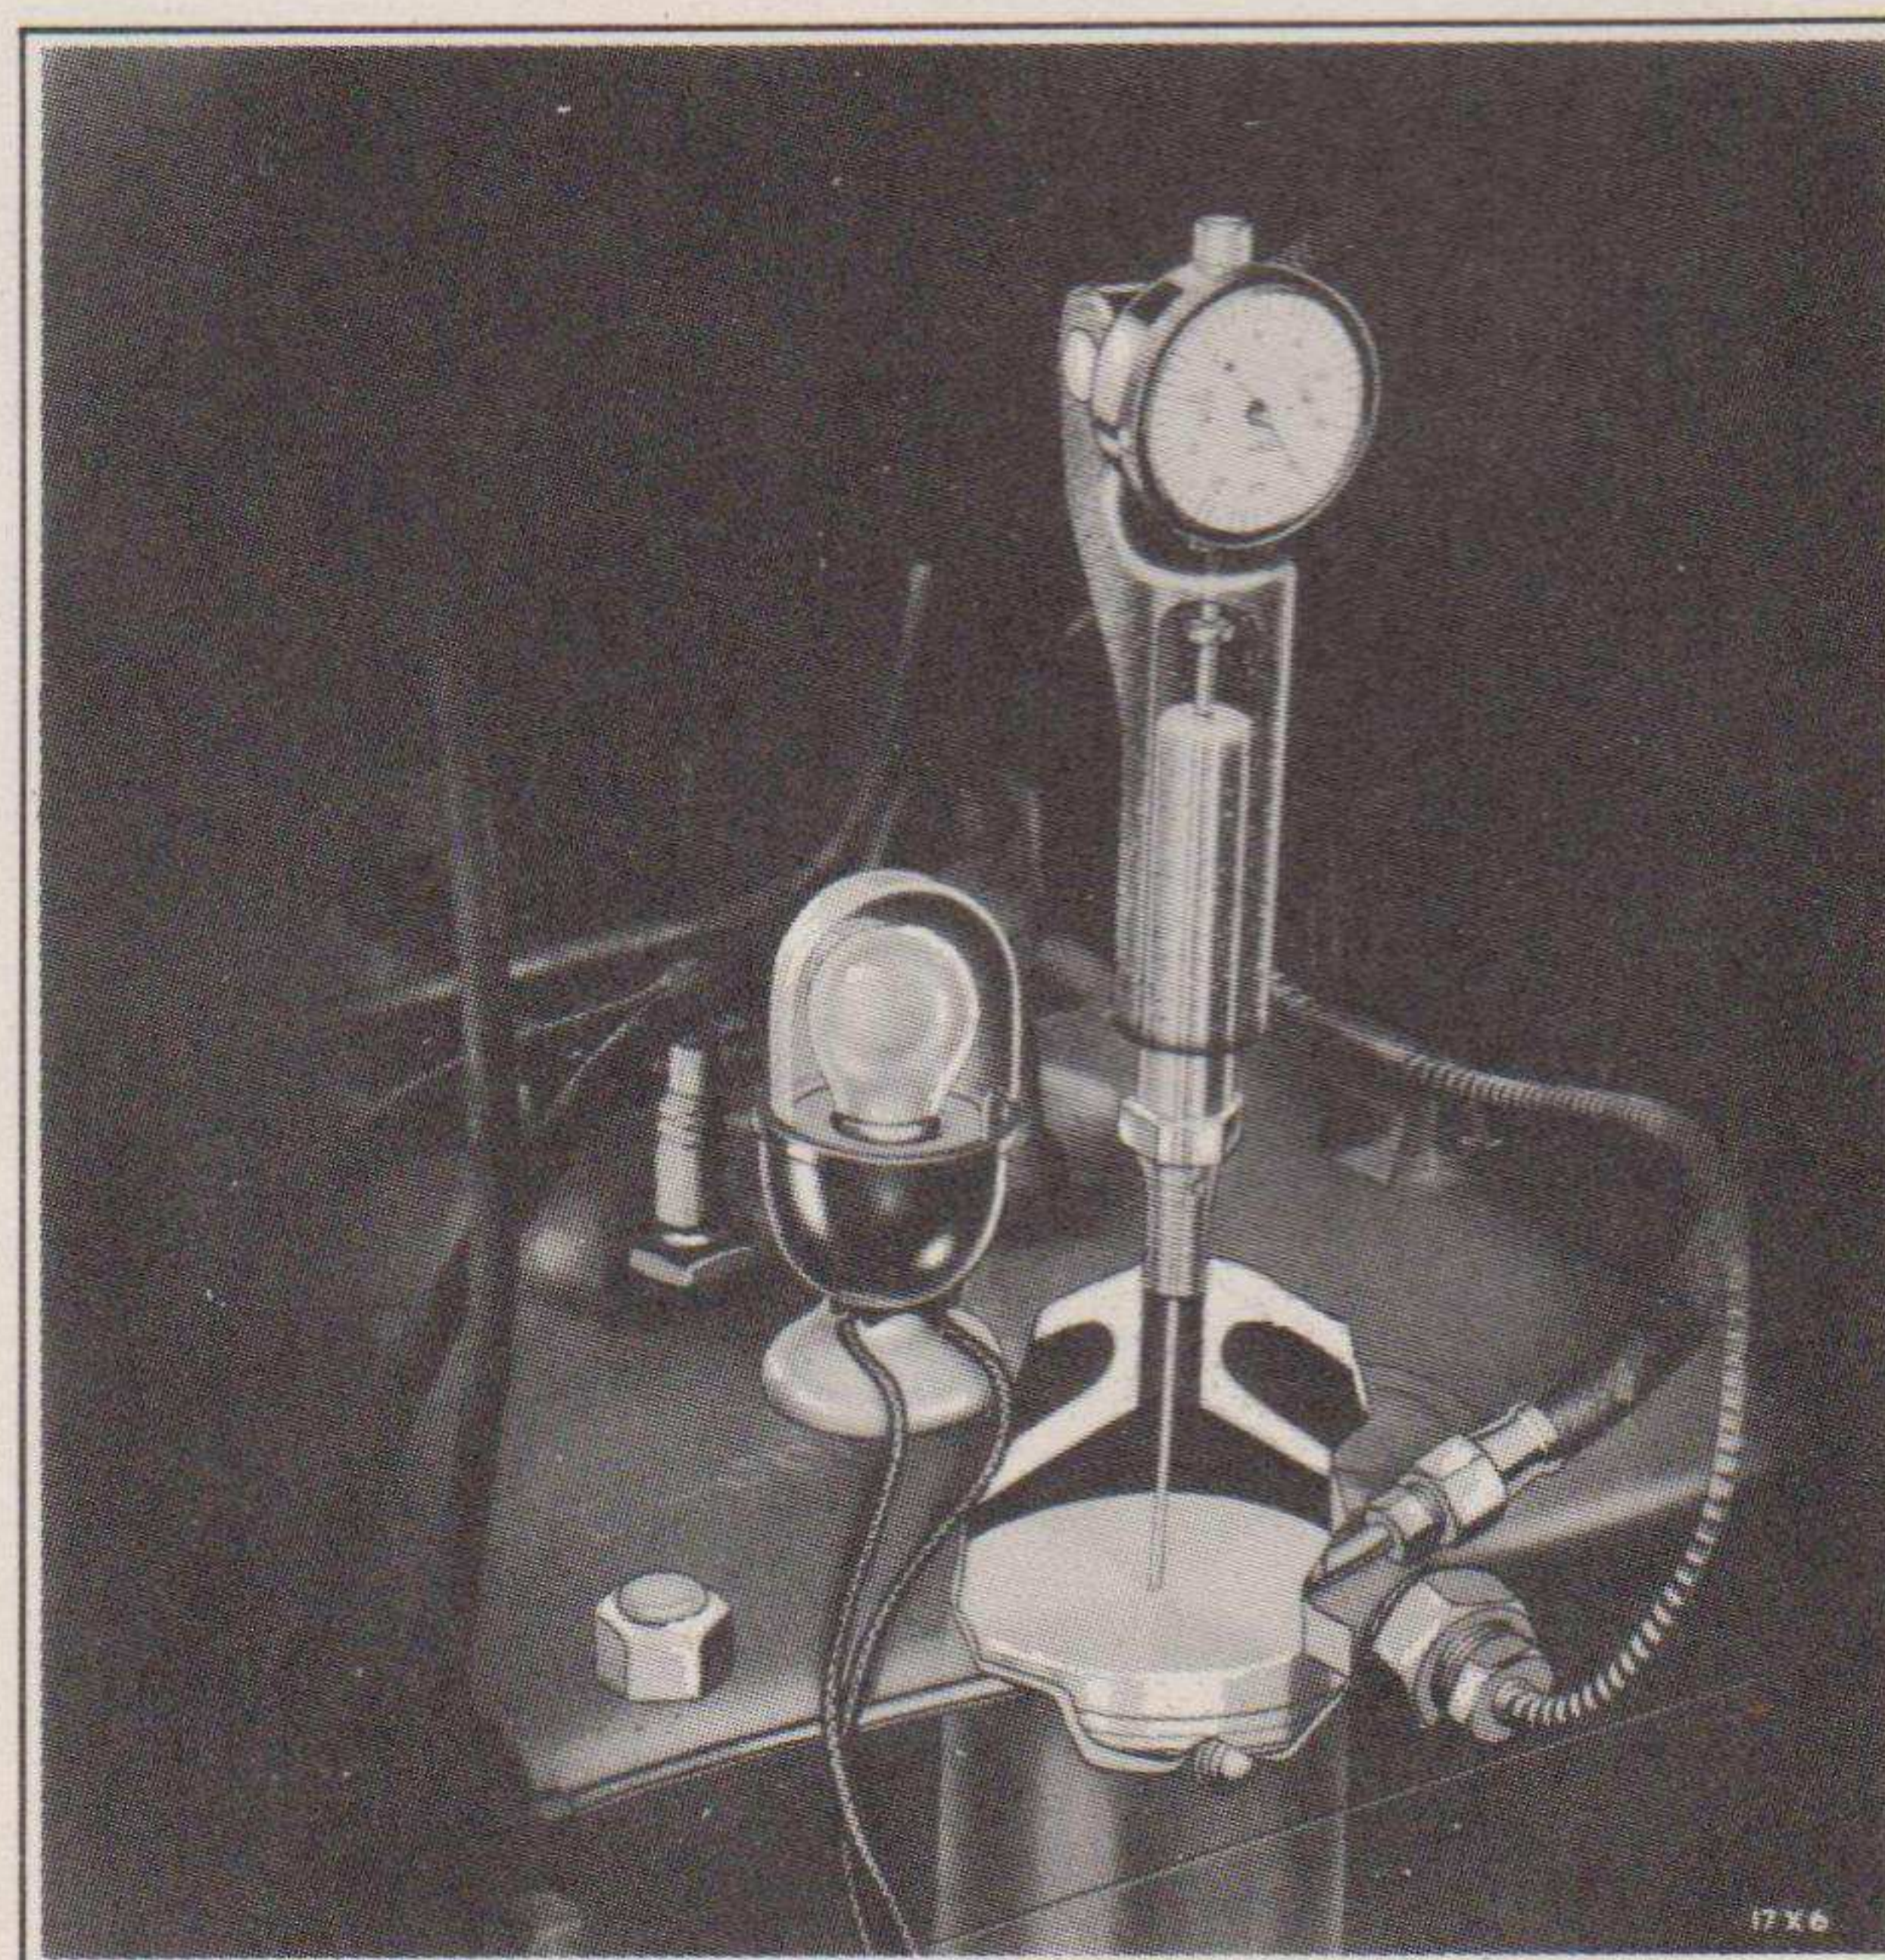

Fig. 136—Timing Indicator (Tool C-435)
- (a) Using a Timing indicator over No. 6 cylinder (Fig. 136), bring the piston up on the compression stroke until the piston is at top dead center.